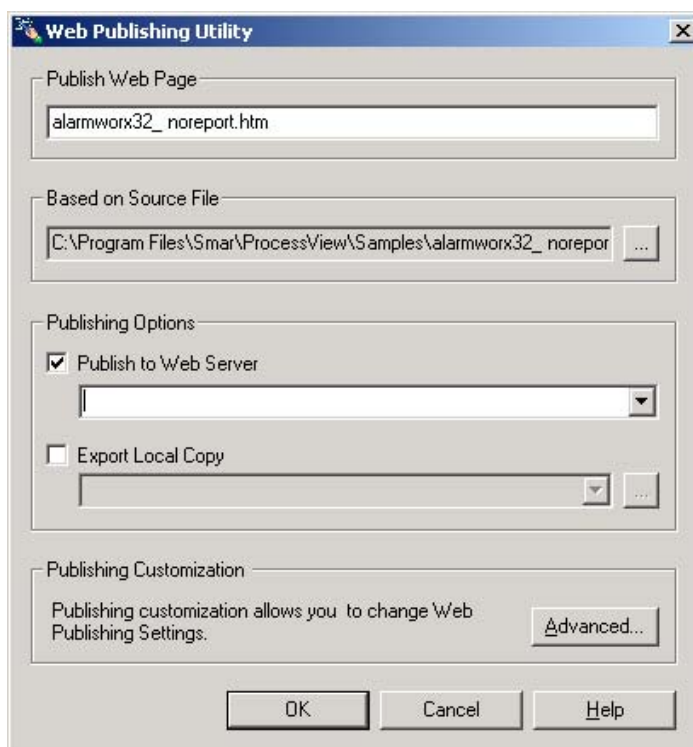

Figure 4.8. Specifying a GraphWorX Display File
1. In the **Based on Source File** field of the Web Publishing Wizard, you must specify the name of the GraphWorX display (.gdf) file to be published, as shown in **Figure 4.8**. To choose a different display, click the ... button to the right to browse for a file. Select a file and then click **Open**. The directory path and the file name are shown in the text field.